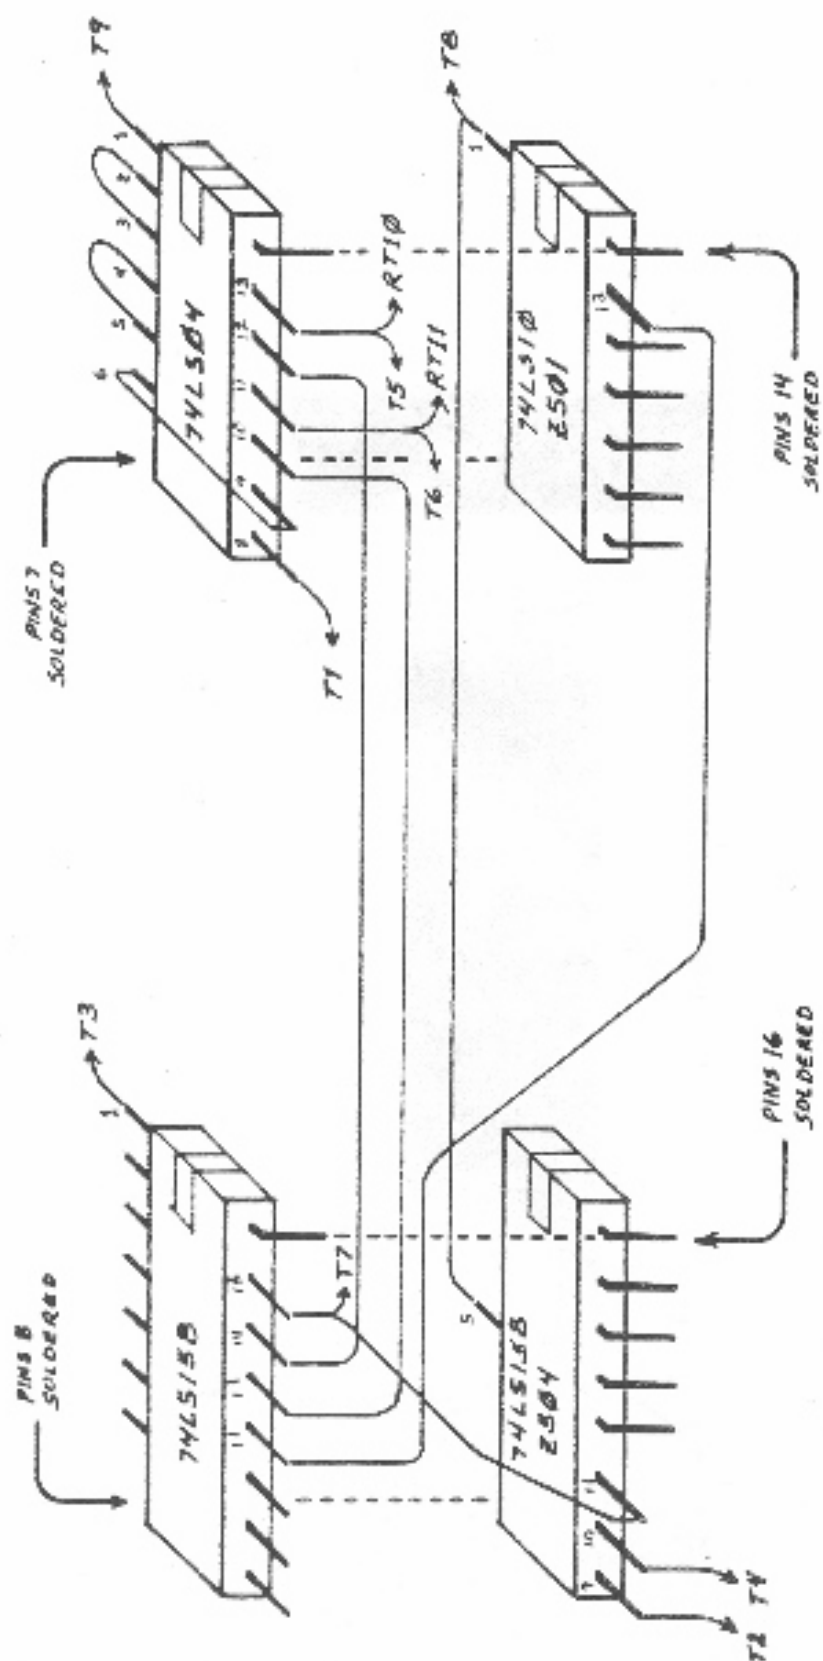

FIGURE 3
- 18.() On the removed 74LS158, bend pins 5, 9, 10, and 11 straight out from the body of the IC (see Figure 3).
26. Using bare #30 wire, install the following connections between pins of the 74LS04 that is piggyback at Z501 (see figure 3).